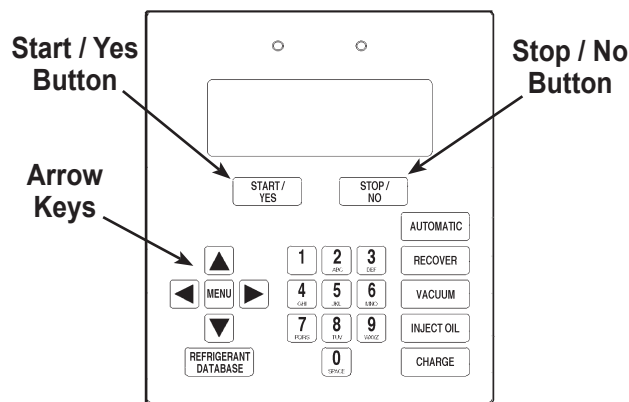

Figure 2
1. Use the **UP** or **DOWN** arrow key to toggle through the choices of English, Spanish, or French. Refer to Figure 2.